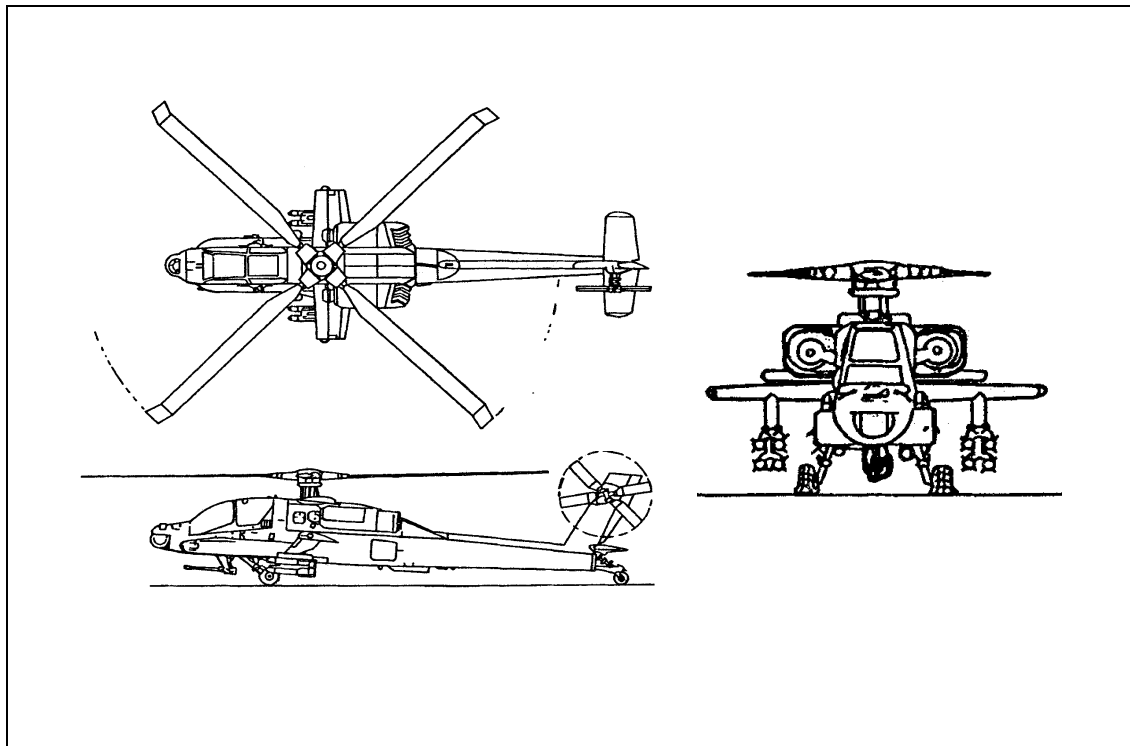

Figure B-4. AH 64A (Apache).
b. **AH 64A (Apache)**. Table B-4 shows specifications for the AH 64A Apache; Figure B-4 shows the aircraft from three angles: